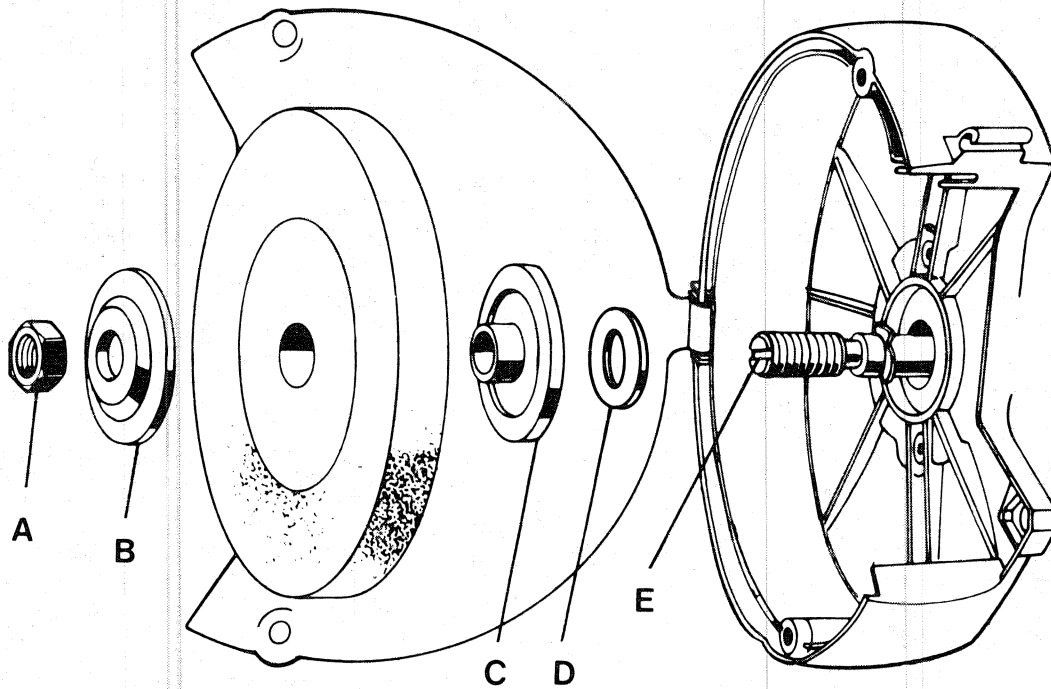

FIG. 4
5. **Always use the exact type of clamp washers that are supplied with your tool. Never substitute flat or odd sized washers. Replace them in the exact order and position shown in Figure 4. Always place hollow sides of washers against wheel.**
2. See figure 4, page 8. Remove clamp nut "A" by turning it in the direction the wheel normally rotates. (The nut "A" shown in black and has a left-hand thread. The silver-colored nut at the other end of the grinder has a right-hand thread.) Use a screwdriver in the end slot "E" to hold spindle when removing nuts.